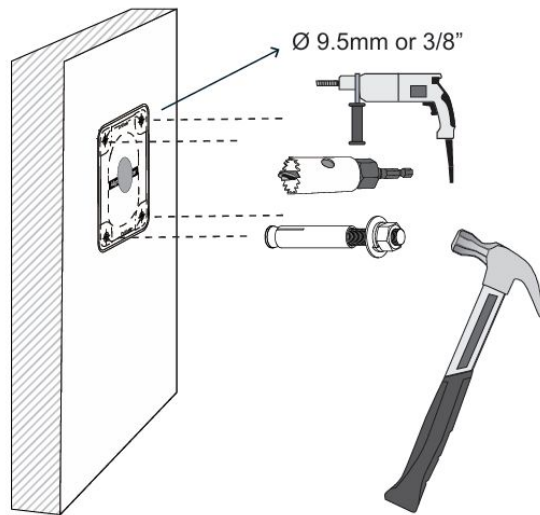

Figure 1-1
Step 1 Use the included position map and drill the appropriate mounting holes and cable exit. Install mounting hardware. See Figure 1-1